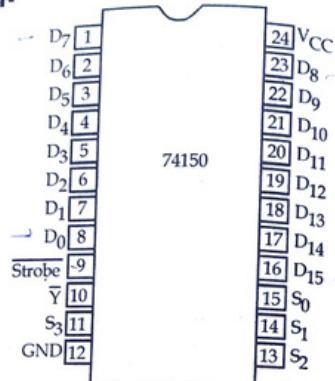

Fig. 4.5 (a) Pinout diagram of IC 74150 - 16-to-1 multiplexer
IC 74150 is a 16-to-1 TTL multiplexer. Its pinout diagram is shown in Fig. 4.5 (a). It has 16 inputs ($D_0 - D_{15}$), a single output (Y) and four select inputs ($S_3 - S_0$). Pins 1 to 8 and 16 to 23 are the input pins and the pins 11, 13, 14 and 15 are the select inputs S_3, S_2, S_1, S_0 . Pin 10 is the output and it equals the complement of the selected data input. Pin 9 is for the strobe, an input signal that disables or enables the multiplexer. A low strobe enables the multiplexer, so that output Y equals the complement of the input data bit (i.e. $Y = \overline{D_n}$). The truth